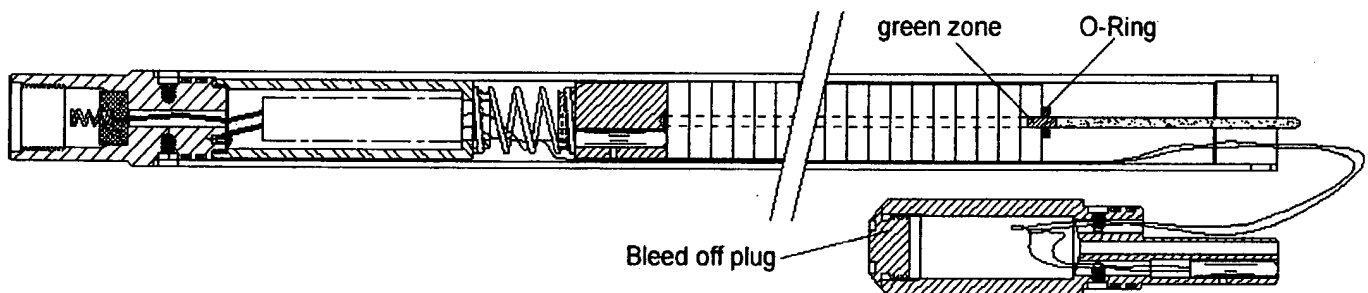

Fig. 5 Slide Load Rod / Pellet Assembly into Housing.
- 3.8 Gently insert the Load Rod/Pellet subassembly into the Housing (**Fig. 5**) until it stops (**DO NOT USE EXCESSIVE FORCE**). (The end of the Load Rod will be protruding about 3/8" beyond the end of the Tool Housing).
- 4.1 Reverse the assembly procedure outlined in steps 3.1 through 3.10 above. If, after a trip into the well, connections prove hard to break, first attempt to bleed off internal pressure by carefully backing off the Pressure Bleed-off Plug (**Fig. 5**) at the bottom of the tool. High pressure liquid (in case of a leak) or high pressure gas (in event of a low order detonation) could be present, therefore wear appropriate PPE (personal protection equipment) and exercise all other safety precautions as specified by your Service Company.